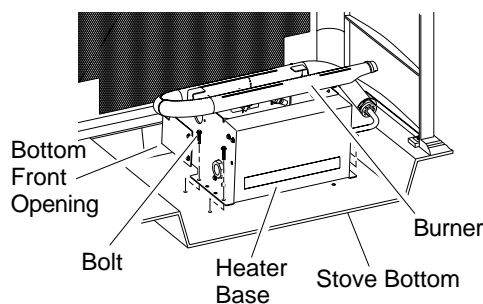

Figure 15 - Placing Heater Base In Stove Cavity (Appearance May Vary Depending on Model)
5. Set gas log heater inside stove. Make sure control knob extension passes through bottom front opening (see Figure 15).
6. Align outside holes on heater base with four (4) mounting holes on the stove bottom (see Figure 15).